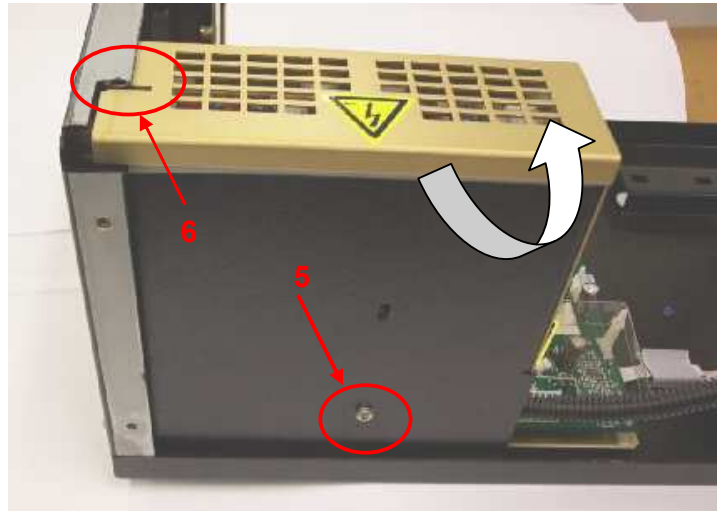
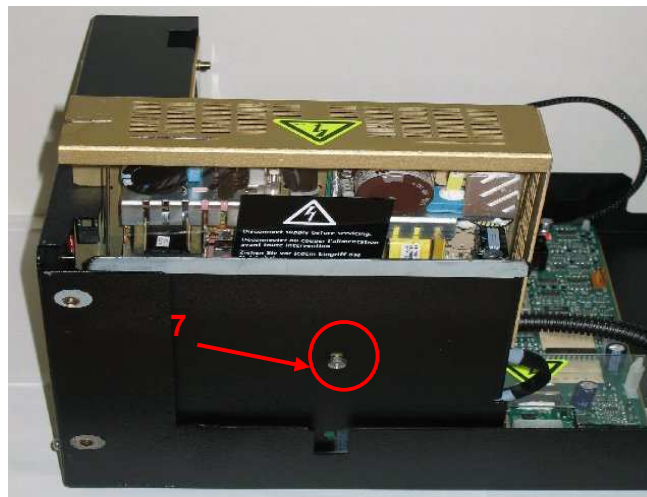

Figure 5: Power Module on the detector
Figure 6: Securing the Power Supply
8. Remove the single screw holding down the power supply module (5). This is located on the outer edge of the detector adjacent to the power supply module (Figure 5).
9. Disengage the safety cover (**6**) and slide the power supply module toward the front of the detector (*Figure 5*). At this stage the mains supply input cables are still connected. Place the power supply module in the service position as shown in *Figure 6* below, and fasten in this position using the screw (**7**) which originally held it in place.